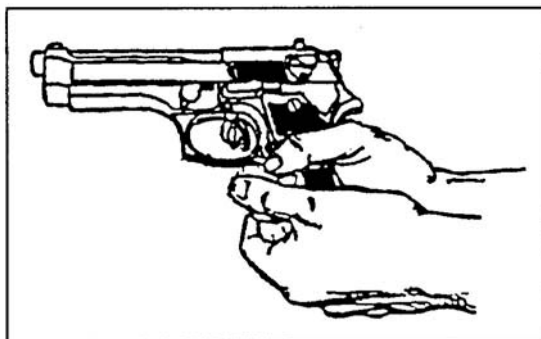

Figure 4. Palm-supported grip.
- (2) Palm-supported grip (Figure 4). Begin by gripping the weapon as previously described. Place your nonfiring hand under your firing hand. Wrap your nonfiring fingers around the back of your firing hand. Place your nonfiring thumb over the middle finger of your firing hand.